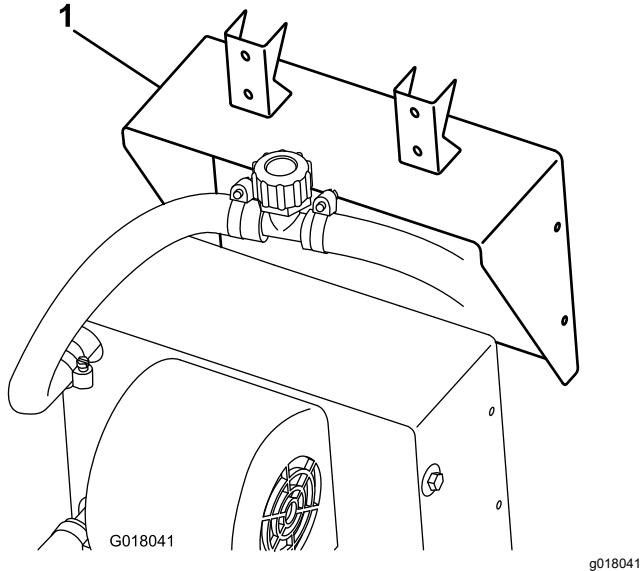

Figure 22
- Attach the heater bracket to the heater using the screws supplied with the heater (Figure 22).